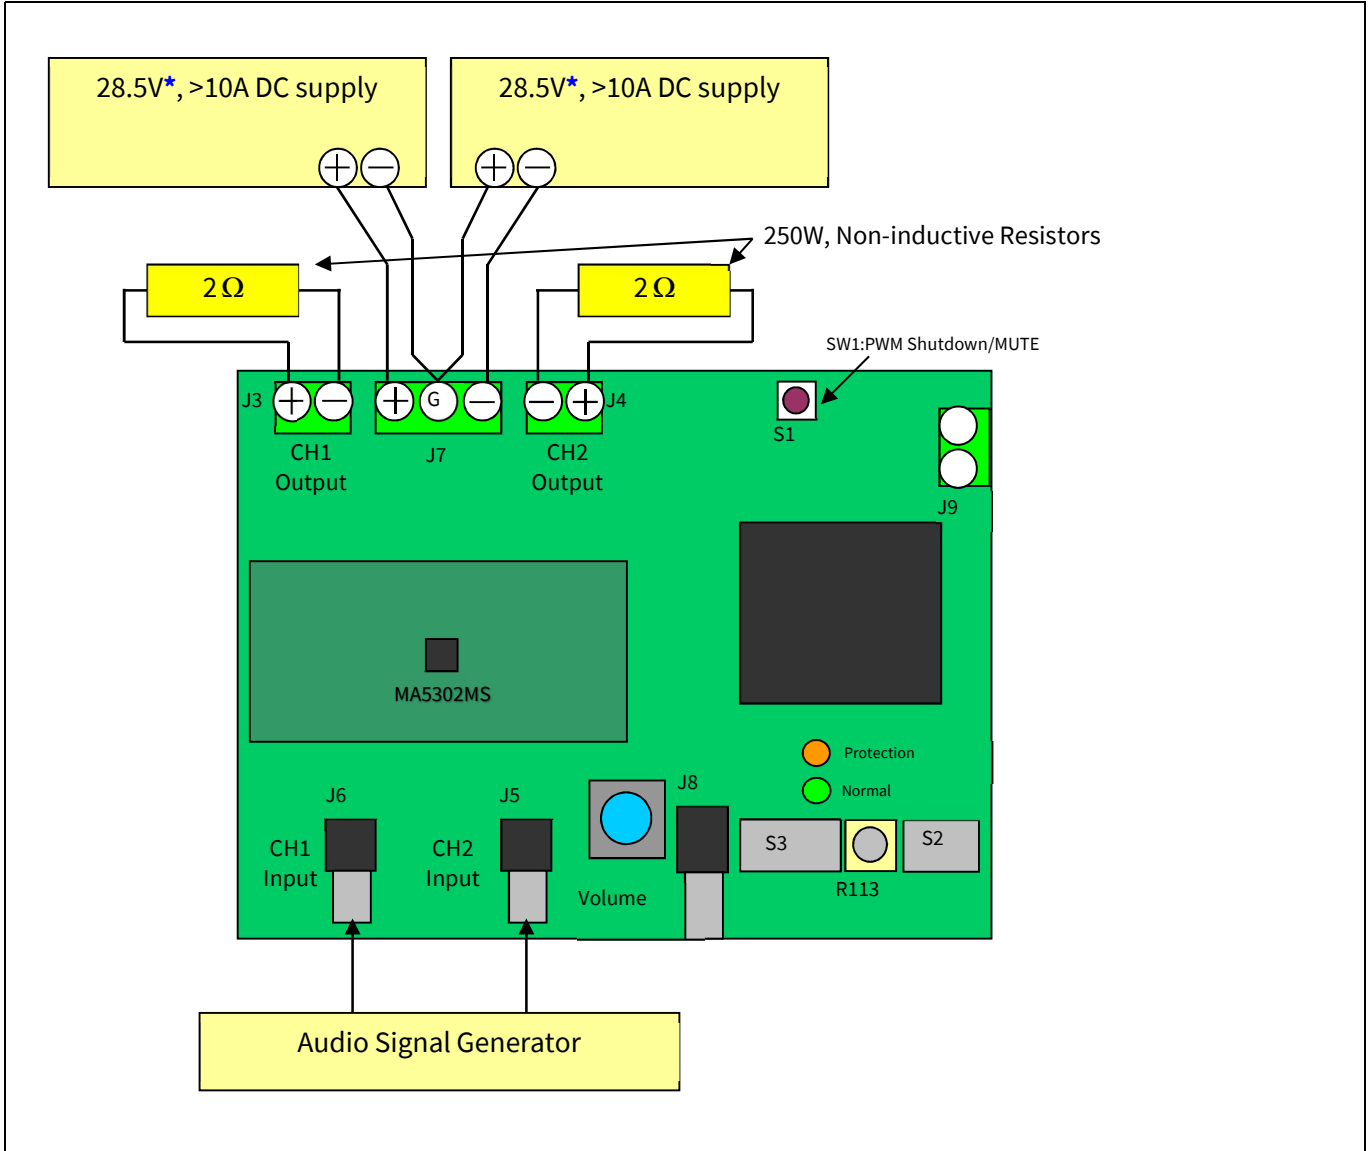
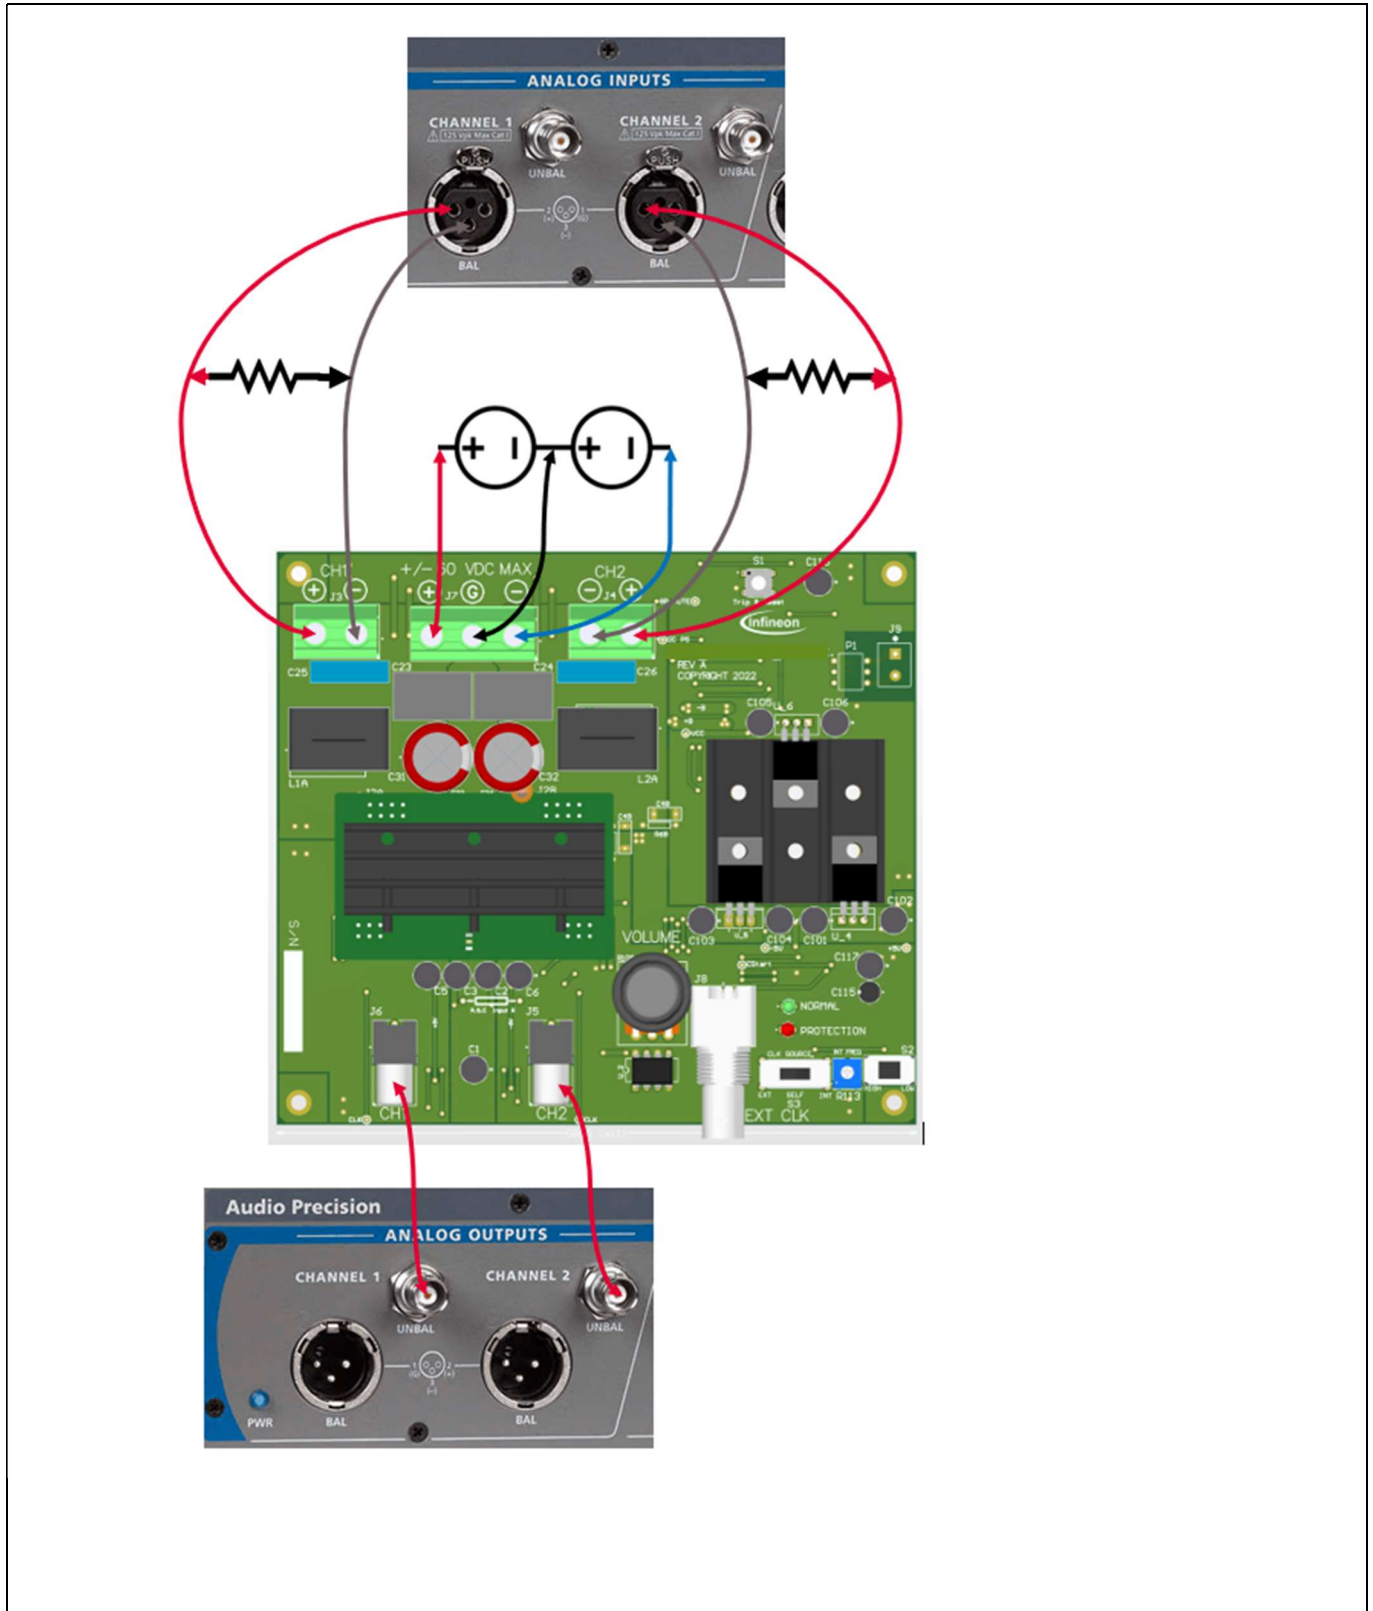

Figure 2 Typical connection connector description
Figure 3 Audio analyzer connection
1. Connect 2 Ω 250 W dummy loads to output connectors (J3 and J4 as shown in Figure 2) and parallel it with the input of the Audio Precision (AP) analyzer.
2. Connect the Audio Signal Generator (ASG) to J6 and J5 for CH1 and CH2 respectively (AP).
7. Connect the dual power supply to J7, as shown in Figure 2 or Figure 3